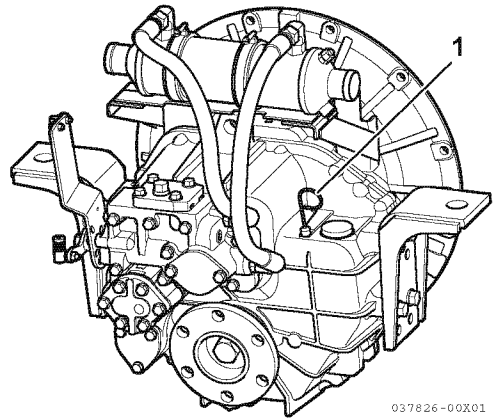

Figure 2
1. Remove dipstick (1, **Figure 2**) and wipe with clean cloth.